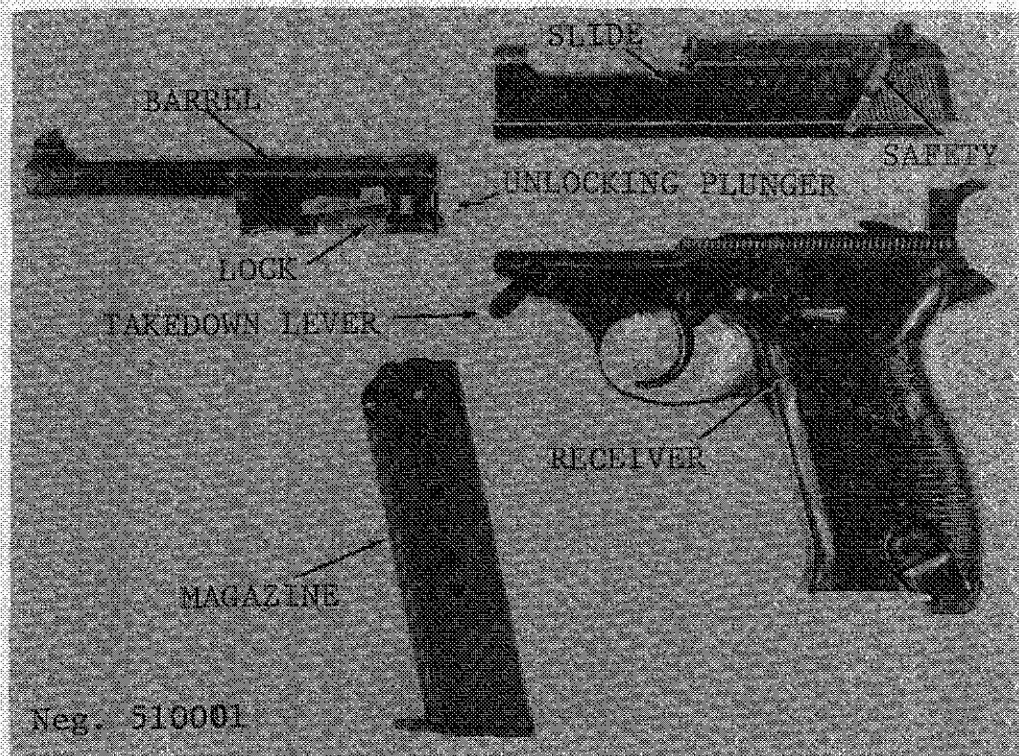

Figure 2. P1 pistol, disassembled.
b. Invert the slide and barrel. Press in on the unlocking plunger (fig 2) to unlock the barrel from the slide and push the barrel forward, out of the slide.
- d. To reassemble the pistol, insert the barrel into the inverted slide; when the barrel is seated against the slide face, press the lock (fig 2) down.